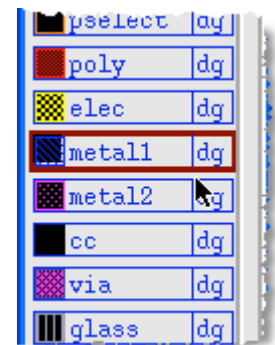

Figure 64: Choosing Metal1 in the LWS window
2. Find and click on *Metal1* in the *LSW* window (Figure 64 shows part of the *LSW* window). Come back to the layout window, go to *Create...Path*. The *Create Path* window will show up (Figure 65).